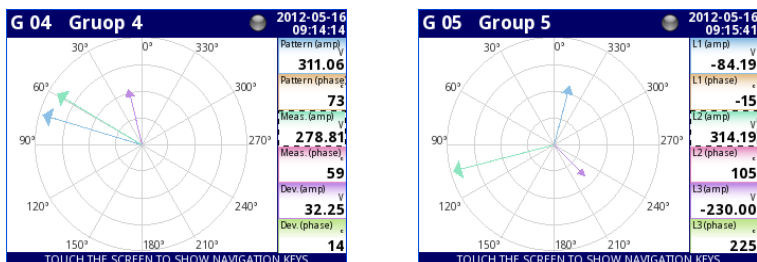

Fig. 6.12 Examples of **Phasor Charts** presentation mode
- as phasor charts **Fig. 6.12**